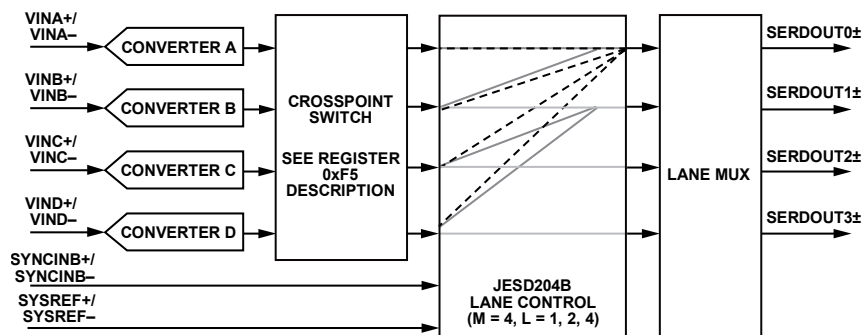

Figure 68. AD9656 Transmit Link Simplified Conceptual Block Diagram
- Option to remap converter (logical lane) and SERDOUTx± (physical lane) assignments: Register 0x82 and Register 0x83. See Figure 68 for a simplified conceptual block diagram.